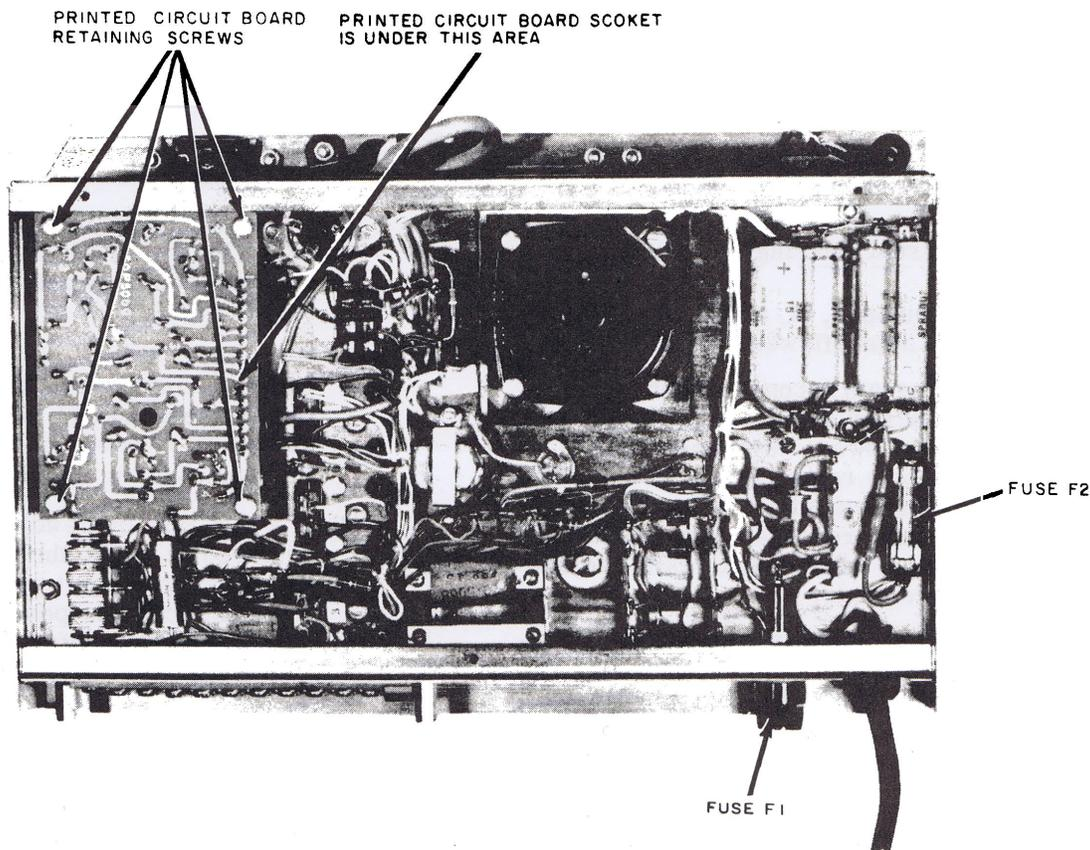

Figure 6. Bottom of Amplifier Housing.
2.06 To remove the printed circuit board from the amplifier chassis turn the chassis upside-down and remove the four printed circuit board retaining screws (refer to figure 6). Pull up on the printed circuit board in the area of the socket to disconnect the interface connector.